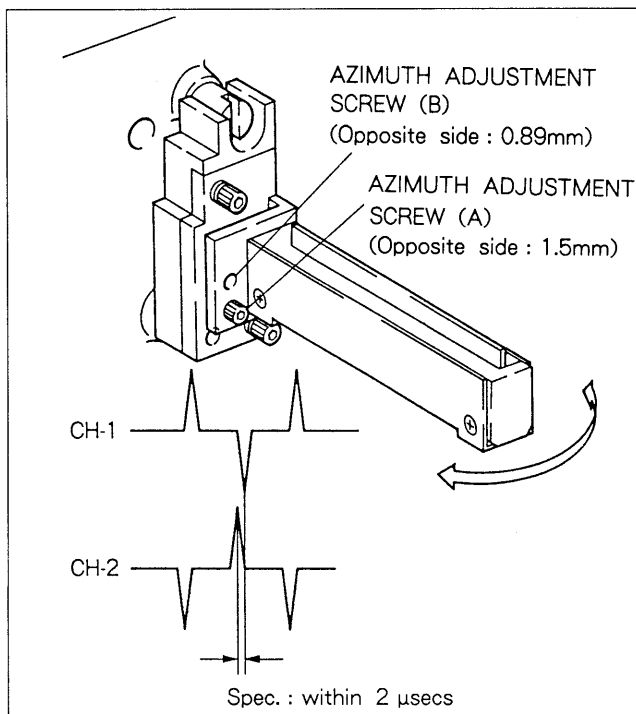

Fig. 9-7-7. Audio REC Head Azimuth Adjustment
- (2) Push the top of the REC head right and left with finger lightly and find the direction whose phase difference, CH-1 (DA. CH-1) and CH-2 (DA. CH-8), conforms to the specification in Fig. 9-7-7.
- (3) Turn and adjust the azimuth adjustment screws (A) and (B) as follows until the phase difference conforms to the specification.